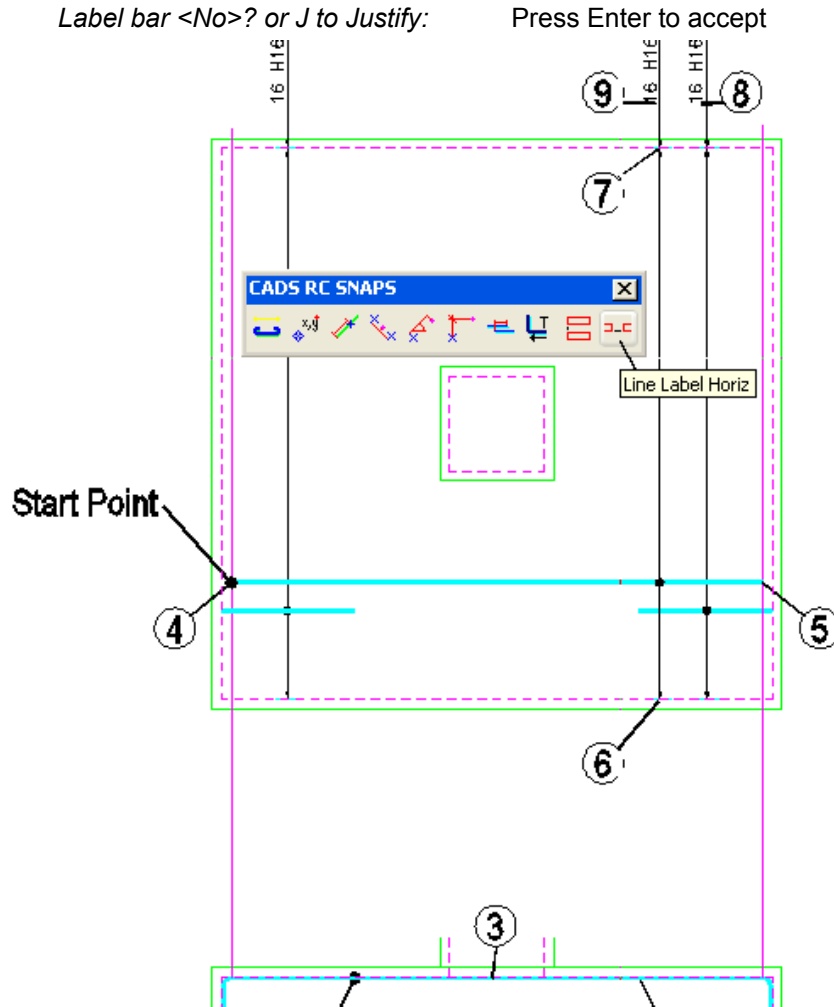

Figure 3.6.18:3 Placing order to add lap bar and range to the Plan View
9. Place the Straight Bar as indicated in figure 3.6.18:3 above using the *CADS RC Snap Line Label Horizontal* to line up the Bar Labels. Note that construction lines have already been added to ease the placement of the bar.